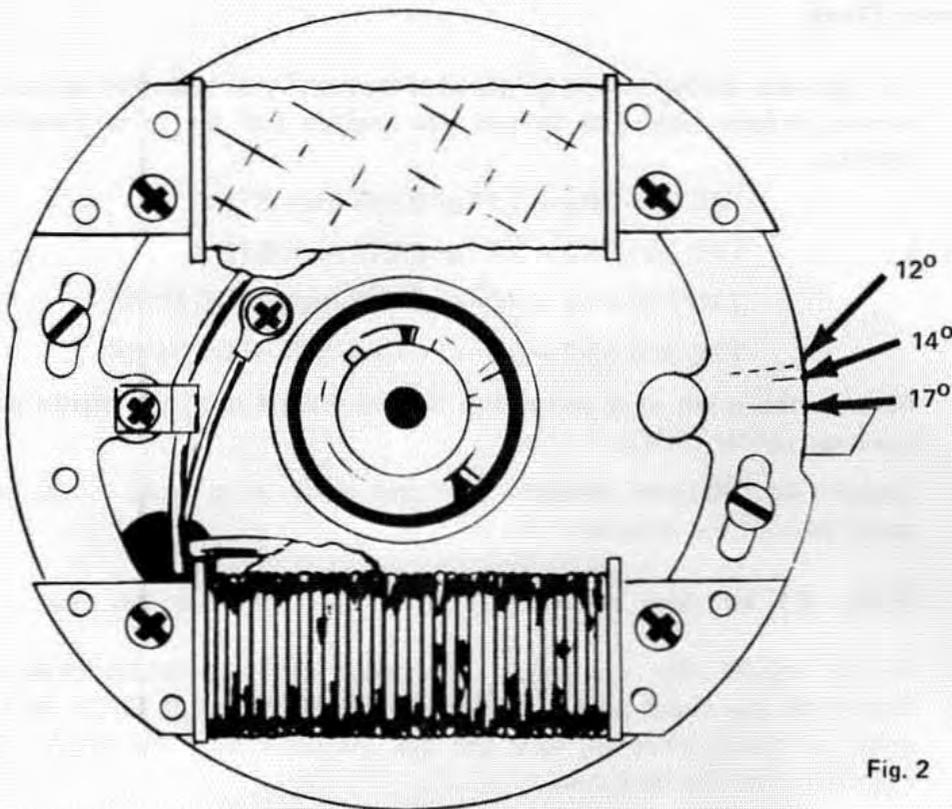

Fig. 2
See Fig. 2.
- Slowly rotate the crankshaft counterclockwise and stop when the dial indicator needle registers the specified timing setting (See: Engine Specifications, page 13). If timing mark on flywheel does not line up with the crankcase timing mark when dial indicator reading is as specified, the stator plate is to be adjusted, Fig. 2.